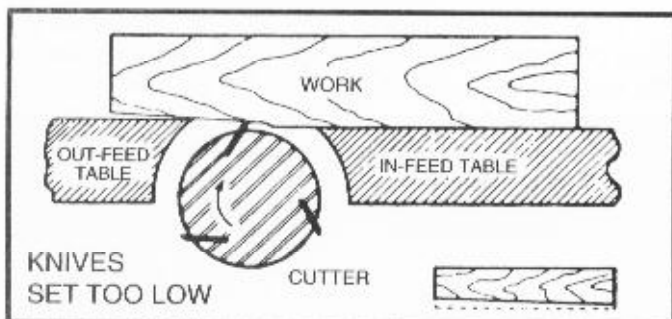

Fig. 22
11. If the knives are set too low, the result will be as shown in Fig. 22, and the finished surface will be curved.